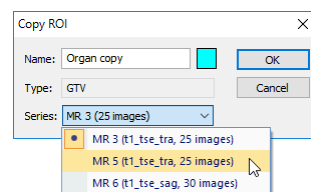

Figure 257 – Copy ROI dialog - selecting the target series
5. Select the target series from the **Series** drop-down menu, if desired (see Figure 257). It is only possible to select a target series that is registered with the source ROI series. The “source ROI” series is the default target series.